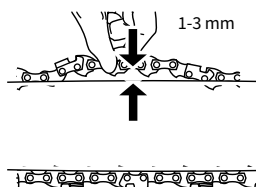

Fig. 16B
4. Check the tension level by pulling the chain 3 mm away from the guide bar with light force. Your chain is at the correct level of tension if there is no slack between the guide bar and the chain on the underside (Fig. 16B).